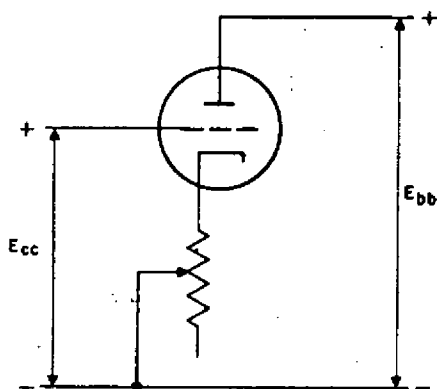

FIGURE 1. RECOMMENDED DC CIRCUIT
- ⁶ A variable resistor of 500 ohms maximum (at an anode current of 60 ma) or 1000 ohms maximum (at an anode current of 30 ma) is to be used. It should be adjusted for the desired anode current. See Figure 1.